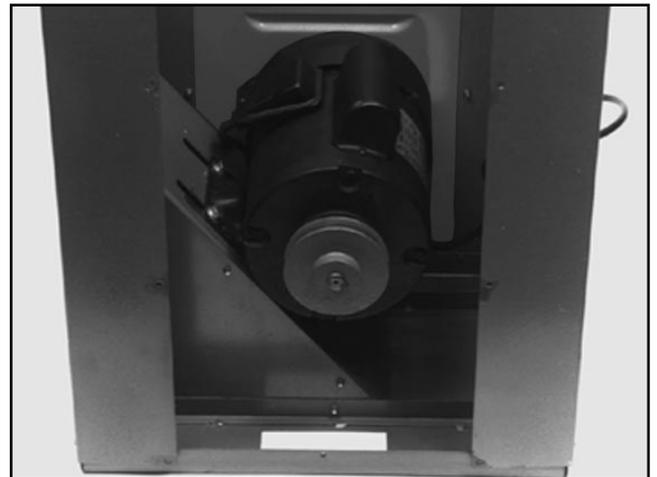

Figure 6. Attaching the motor.
5. Flip the stand upside down to mount the motor to the underside of the dust chute. Mount the motor on the chute using the four $\frac{5}{16}$ " - 18 x $\frac{3}{4}$ " hex head bolts, flat washers and nuts provided. Be sure to position the motor pulley to the rear (open end) of the stand as shown in **Figure 6.** Leave the motor mount bolts finger-tight for now.